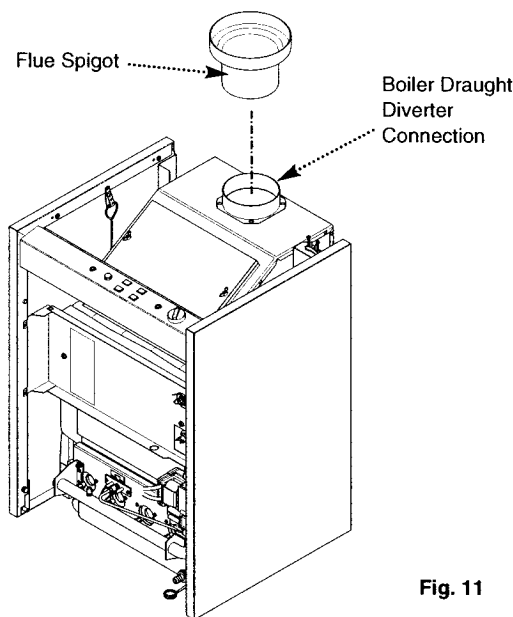

Fig. 11
6. Remove the flue spigot from inside the case and fit it to the boiler draught diverter (Fig. 11). **Important: Only use the flue spigot supplied. Do not use a proprietary item.**